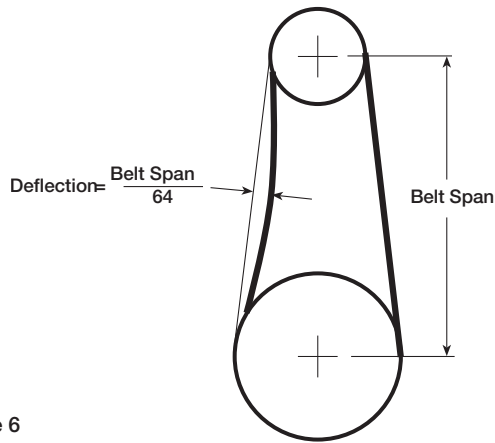

Figure 6
9. Belt tension should be adjusted to allow 1/64 in. (0.397 mm) of deflection per inch of belt span. For example, a 15 in. (381 mm) belt span should have 15/64 in. (0.234 mm) (or about 1/4 in. (6 mm)) of deflection with moderate thumb pressure at mid-point between pulleys (see Figure 6).